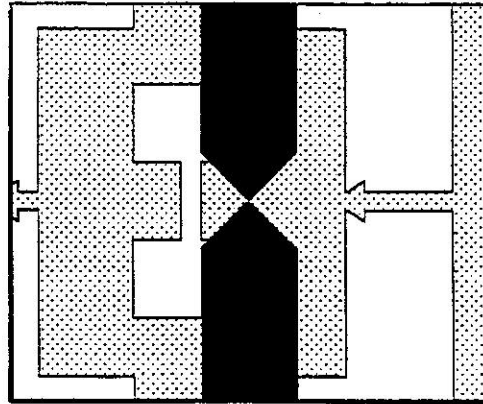

Figure 6-2. Stylus/Step Positioning
5. Place the appropriate Calibration Standard on the sample stage, lower the stylus and position it as shown in Figure 6-2.